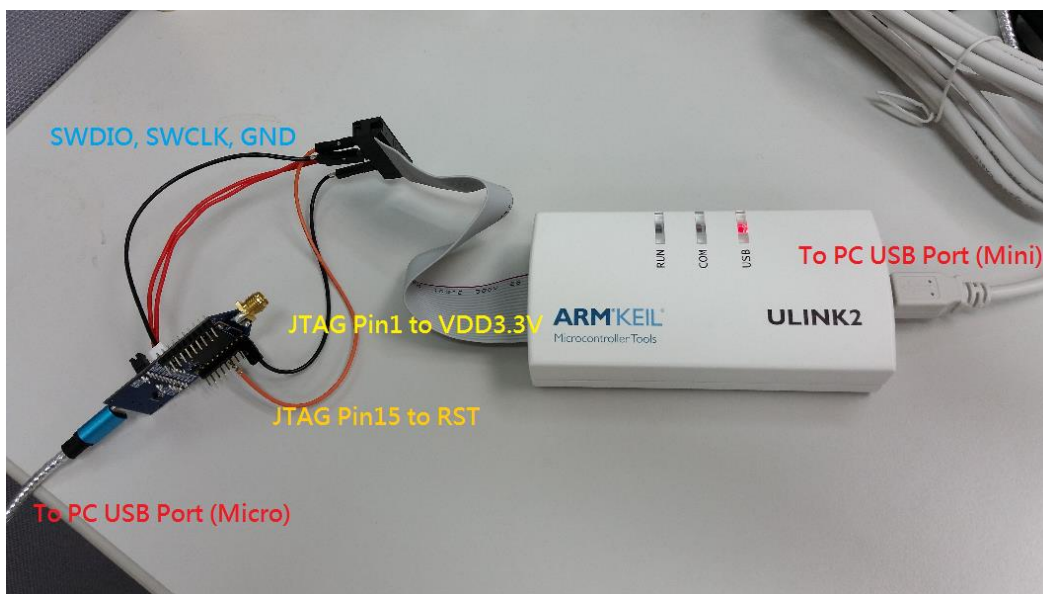

Figure 3.9
Connect HW component as Figure 3.9.
- Connect ULINK2 to PC with USB standard A to mini-B cable. (See Figure 3.9)
- Connect XB board to PC/NB USB port with USB standard A to micro-B cable. (See Figure 3.9)